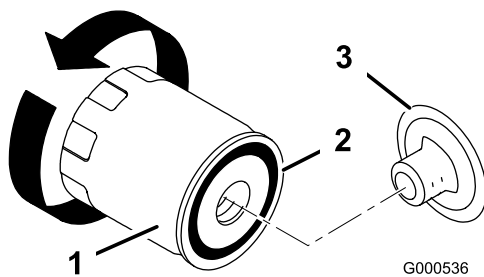

Figure 37
9. Change the oil filter, if necessary (Figure 37).
2. Remove the old filter and wipe the filter adapter gasket surface (Figure 37).
3. Apply a thin coat of clean oil to the rubber gasket on the replacement filter (Figure 37).
4. Install the replacement oil filter to the filter adapter. Turn the oil filter clockwise until the rubber gasket contacts the filter adapter; then tighten the filter an additional 1/2 to 3/4 turn (Figure 37).